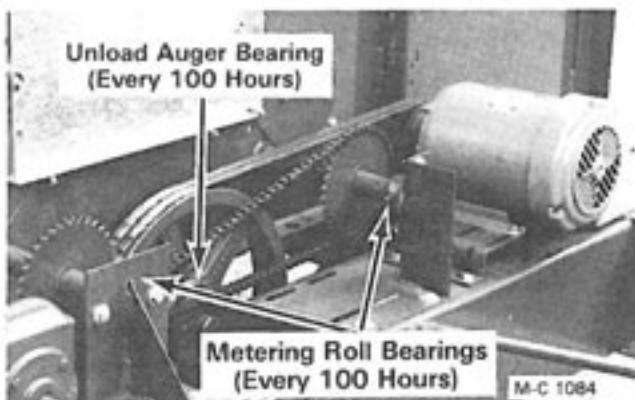

Figure 29
1. Lubricate the unloading auger front bearing and the front bearing on each grain metering roll, see Figure 29.